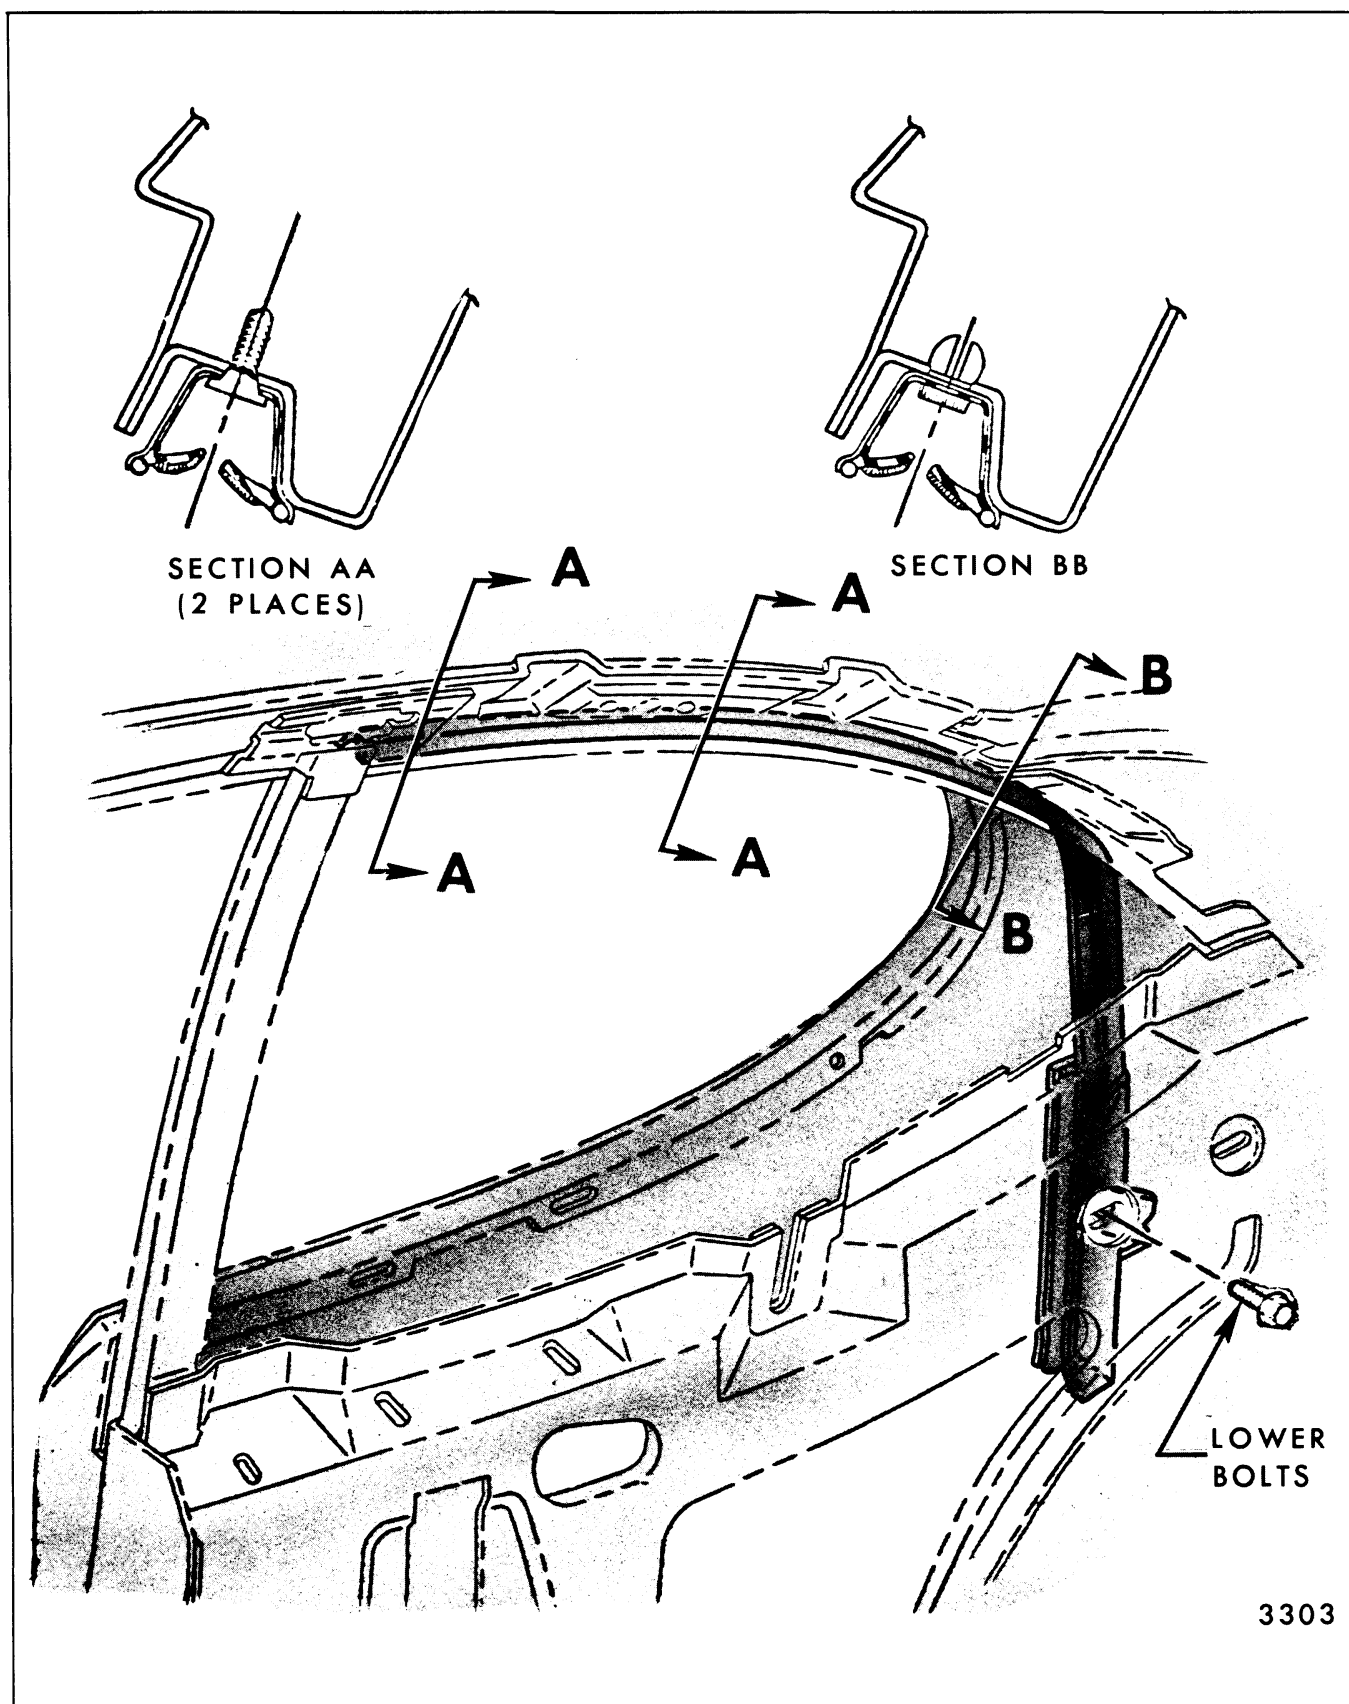

Fig. 6-27-Rear Quarter Window Glass Run Channels - Typical of All Closed Styles
2. Remove run channel to inner panel attaching bolt (Fig. 6-27).